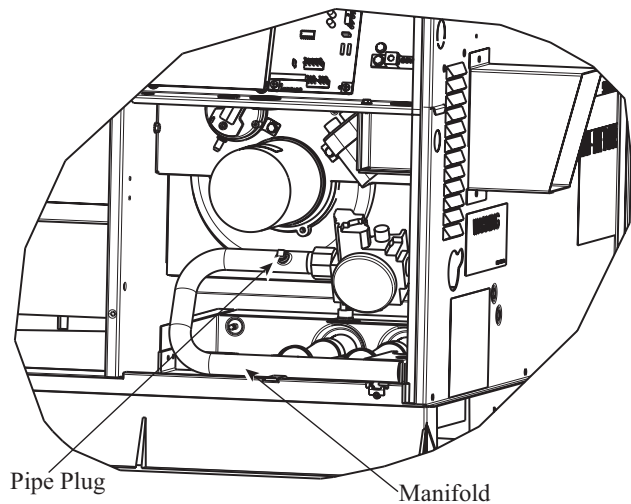

Fig. 11 - Burner Assembly
- Remove pipe plug on manifold (See Fig. 11) and connect manometer. Turn on gas supply to unit.
4. Turn off gas supply to unit. Remove manometer from pressure tap and replace pipe plug on gas valve. (See Fig. 11.) Turn on gas to unit and check for leaks.